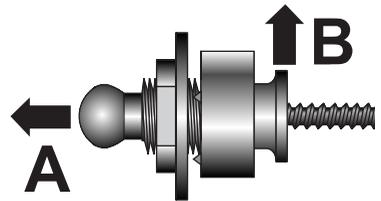

fig. 1
- Pull apart the Security Lock's button (which will be attached to your instrument's body) and the lock (which will be attached to your strap). In order to do this, pull back the head of the lock (A) and then pull the button in the direction indicated by the arrow (B). The lock will not move if its head is not pulled back (fig. 1 and 2).